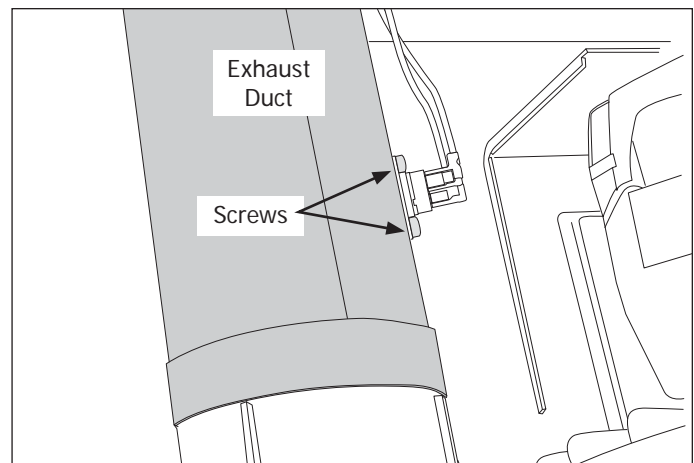

Figure 4-29.
3. Using a #2 square bit screwdriver, extract the two screws securing the exhaust thermal limiter to the exhaust tube. (See Figure 4-29)